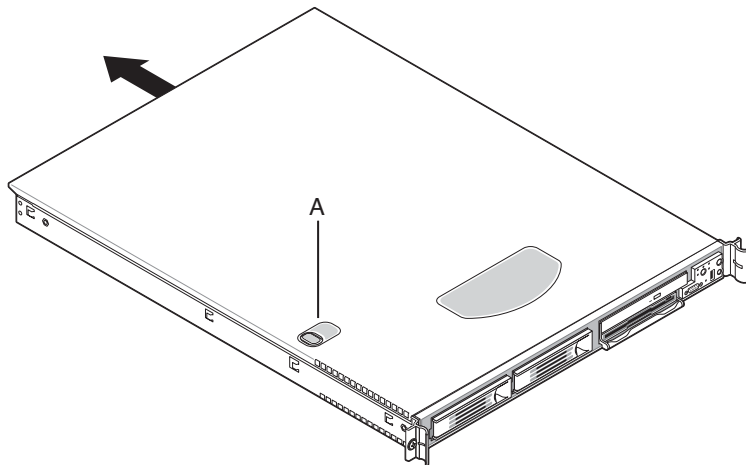

FIGURE 5-1 Removing the Cover
1. While pressing the blue latch button (A) with your left thumb, push down on the top cover and slide it back using the heel of your right hand on the blue pad (see Figure 5-1).